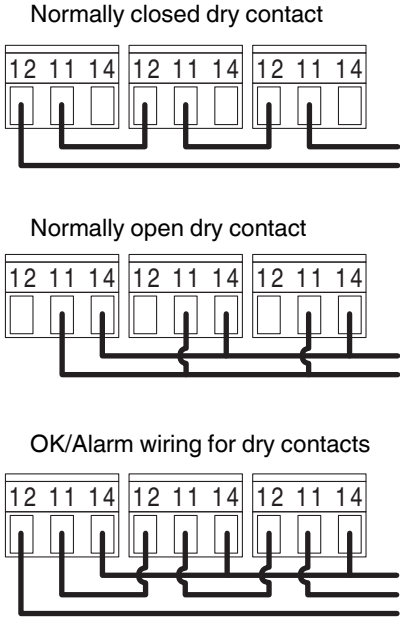
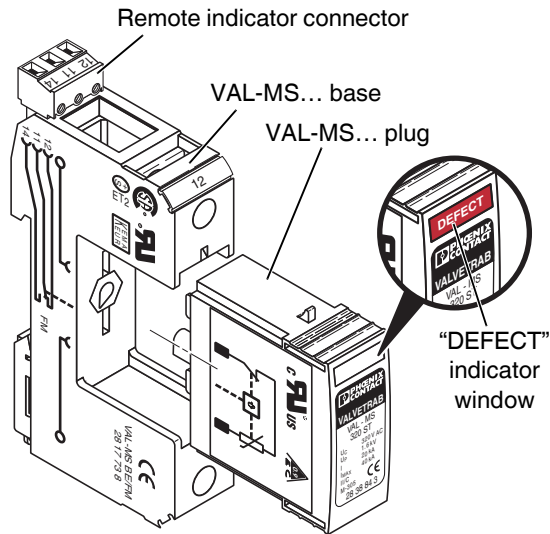

Figure 10 Connections for dry-contact indicator
Figure 11 VAL-MS... defect indicator
Connectors can be wired so that switches are in either a normally opened or normally closed state. Figure 10 shows typical wiring for a gang of three VALVETRAB modules.
5. Check remote indication connectors (Figure 11) and remote indicator wiring, if present (Figure 10).